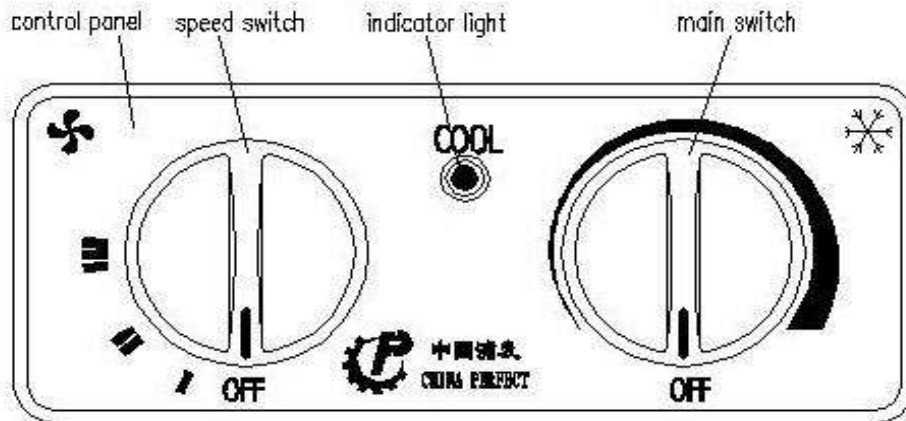

Figure 3.10.1
- (1) As figure 3.10.1 shows, counter-clockwise turn the main switch to OFF.
- (2) As figure 3.10.1 shows, clockwise turn the speed switch to I, II or III, you can make low, moderate and high wind speed.
- (4) As figure 3.10.1 shows, counter-clockwise turn the speed switch to OFF to shut down the whole system.
- (1) Choose proper wind speed and direction according to the “aeration operation”.
- (2) As figure 3.10.1 shows, clockwise turn the main switch to a proper position. (Clockwise turn make lower temperature. Turning to the most right makes the lowest temperature. While it is too cool, you can counter-clockwise turn the main switch. Furthermore, you can control the coldness by the wind speed.)
- (3) You can get a comfortable environment by controlling the wind speed, wind direction and the coldness.
- (4) As figure 3.10.1 shows, turn the main switch and the speed switch to OFF, the whole system will shut down.